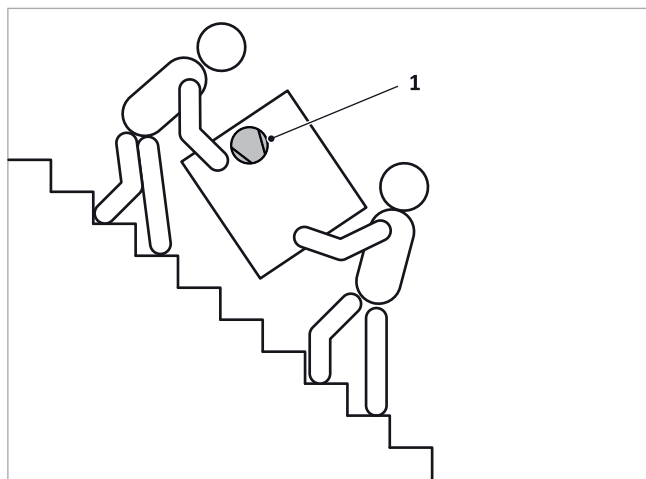

Fig. 3: Carrying on stairs
- If the unit has to be tilted during transport, this must be done only briefly via one of the long sides. The compressor should always be on top; see → Fig. 3 (1).